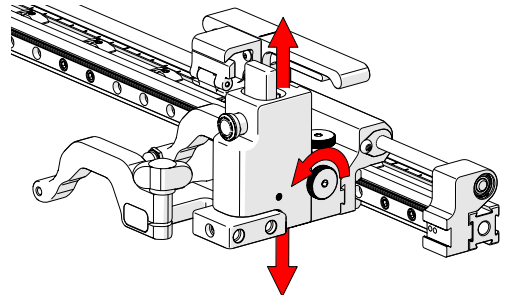

Fig. 48 - Vertical adjustment
2. The vertical adjustment knob (Fig. 48) allows height adjustment of the heavy duty vertical probe holder. This adjustment also controls the probe holder's spring tension.